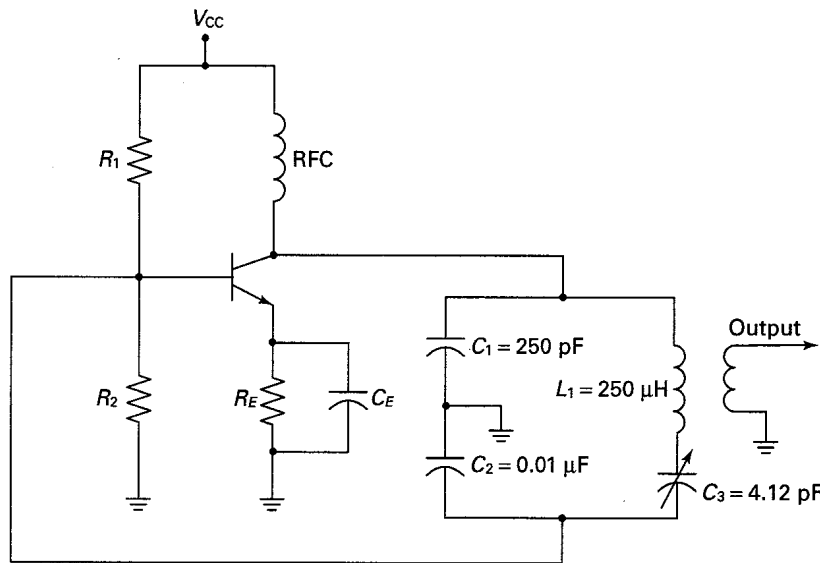

Fig. 2-33
- 2.37 Refer to Fig. 2-33. Calculate the following: (a)  $f_{osc}$ ; (b) the feedback fraction  $B$ ; (c)  $X_{C_1}$ ,  $X_{C_2}$ ,  $X_{C_3}$ , and  $X_{L_1}$ ; (d)  $X_T$  of the  $L_1 C_2 C_3$  branch.
- 2.38 Refer to Fig. 2-33. Calculate the value of  $C_3$  required to produce an oscillating frequency of 7.5 MHz. Ignore the effects of  $C_1$  and  $C_2$  in determining  $f_{osc}$ . *Ans.*  $C_3 = 1.8$  pF
- 2.39 Refer to Fig. 2-33. Assume  $C_1 = 330$  pF,  $C_2 = 0.033 \mu\text{F}$ ,  $C_3 = 40.5$  pF, and  $L_1 = 50 \mu\text{H}$ . Calculate: (a)  $f_{osc}$ , (b) the feedback fraction  $B$ .